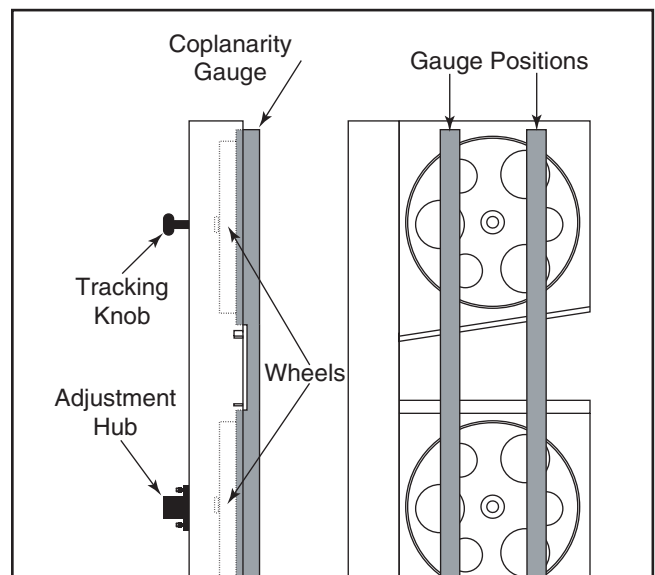

Figure 61. Checking for coplanarity.
4. Place your coplanarity gauge up against both wheels in the positions shown in **Figure 61**.